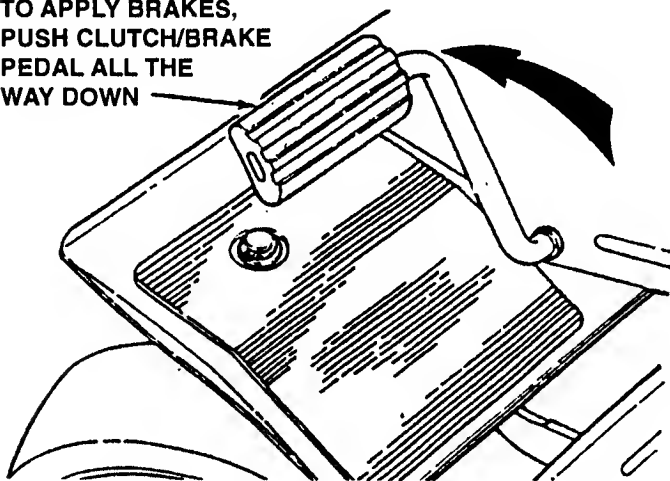

FIGURE 2.12
1. Stop motion of Rear Engine Rider by pushing Clutch/Brake Pedal all the way "DOWN" to apply brake. See Figure 2.12.
Stop mower blade by removing feet from blade pedals or moving blade lever rearward to the "OFF" position. See Figure 2.12.